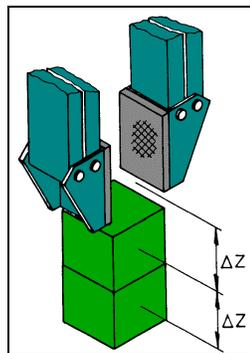

Figure 9-4
- In the Z(mm) field, enter the height of the blocks (e.g., 28 mm), as shown in Figure 9-4.